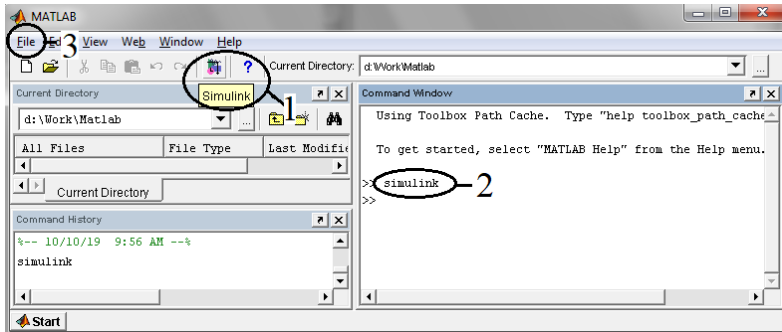

Figure 1.1 – MATLAB Command Window
To run Simulink, MATLAB must be started first. To start it, double left-click on the MATLAB icon. When MATLAB is started, the MATLAB Command Window opens as shown in Figure 1.1.
- click **Simulink** button  on MATLAB toolbox (number 1 in Figure 1.1);
- type *Simulink* on your keyboard in MATLAB Command Window and press **Enter** (number 2 in Figure 1.1);
- click **Open** on the File menu (number 3 in Figure 1.1) and open a model file with the extendent **.mdl**, for example, *my_lab.mdl*.